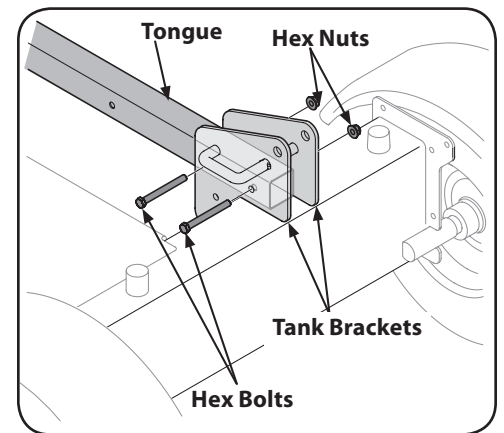

Figure 2-2
9. With the log splitter still secured to the bottom of the crate, remove two hex bolts and hex nuts from the tank bracket and remove the piece of wood inside the tank brackets. See Figure 2-2.
10. Align the holes in the tongue with the holes in the tank bracket and secure with the hardware just removed. See Figure 2-2.